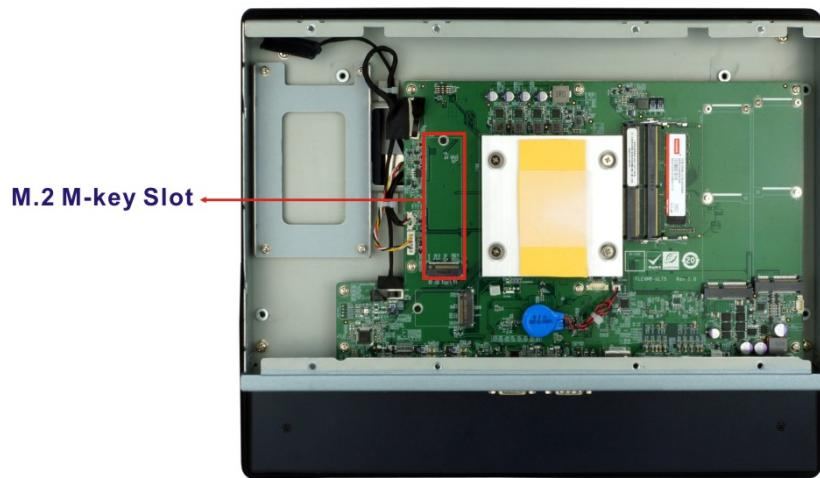

Figure 3-8: M.2 Slot Location
Step 2: Locate the M.2 slot as shown in Figure 3-8.